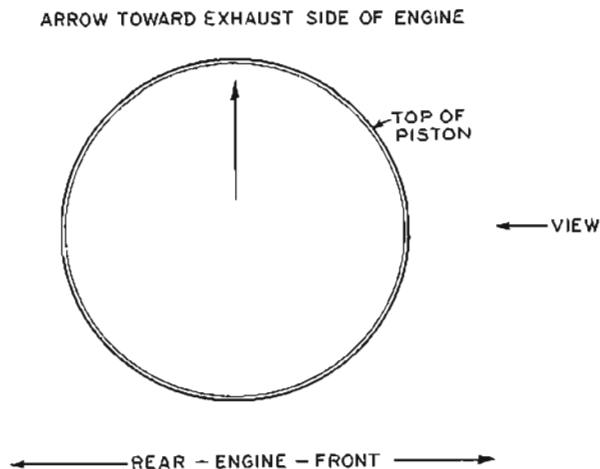

Figure A-35. Top of Piston
(2) Install all rings on each piston. Tapered type rings will be marked "TOP" or identified in some other manner. Place this mark toward the closed end of the piston. Space the ring gaps 1/3 of the way around the piston from one another. No gap should be in line with the piston pin. Oil the rings and pistons.
(3) Position a bearing half in each connecting rod. Be sure there is no dirt under the bearing. This could cause high spots and early bearing failure.
(4) Oil the cylinder walls and pistons. Install each piston in the proper cylinder using a suitable installer. Each assembly should be installed with the arrow mark on the piston toward the right when facing front (flywheel end) of engine (fig. A-35).